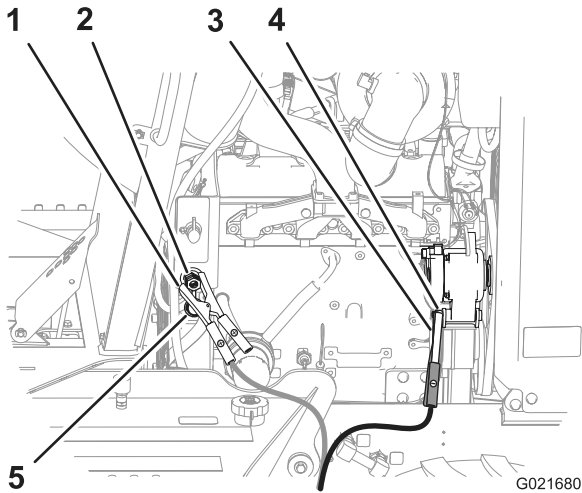

Figure 56
4. Remove the cover from the jump post (Figure 56).
5. Connect the positive (+) jumper cable to the jump post (Figure 56).
6. Connect the negative (-) jumper cable to a ground point, such as the nut at the pivot point for the alternator (Figure 56).